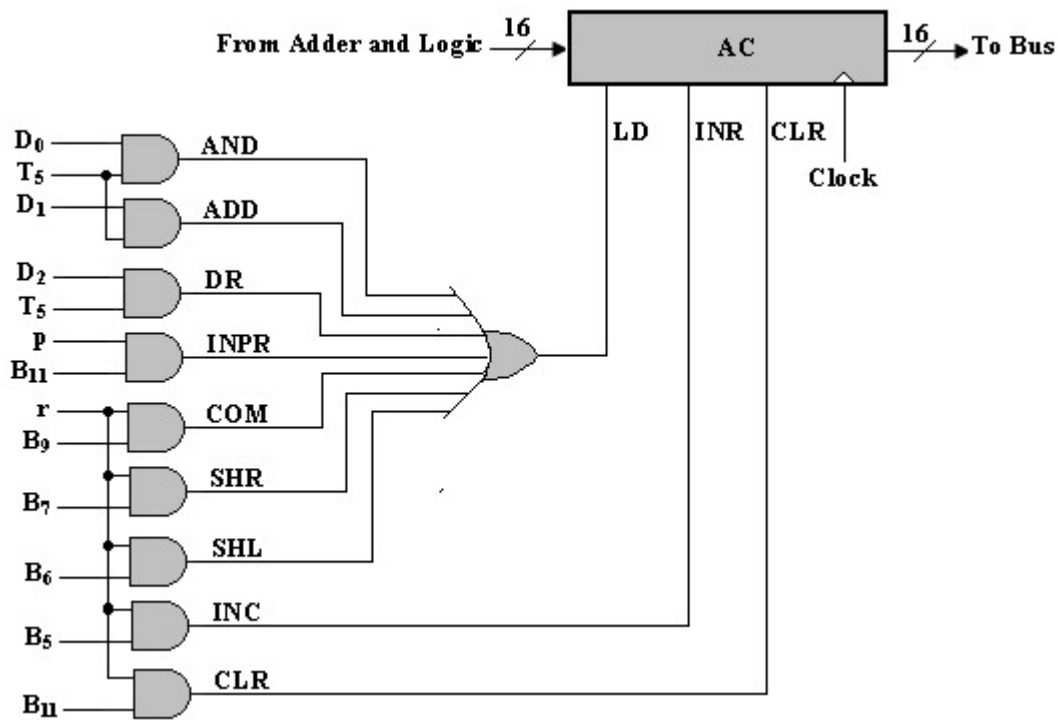
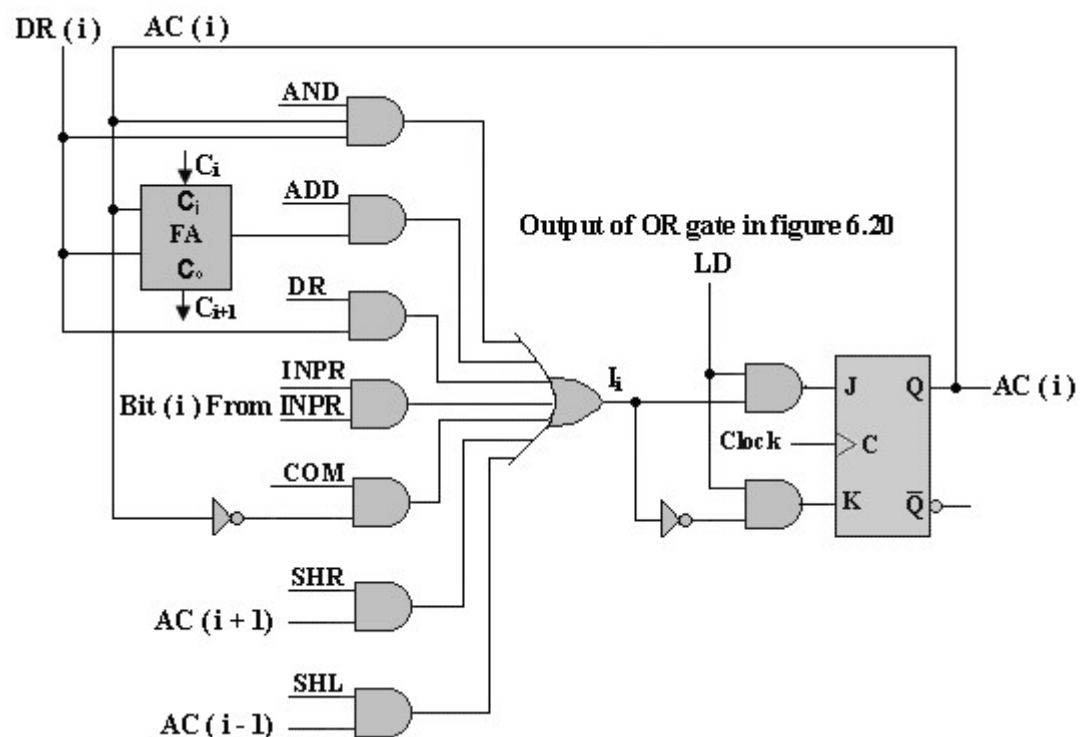

Figure 6.21
Figure 6.23
Figure 6.21 shows the gate structure that controls the **LD**, **INR**, and **CLR** inputs of the accumulator register **AC**. **Note that the outputs of the gates for each control function are marked with a symbolic name.**
Figure 6.23 shows one stage of AC register (here the OR gates are removed) since the other functions (i.e. Clear and Increment of the register AC are not included). When LD input is enabled, the 16 inputs I_i for $i = 0, 1, 2, \dots, 14, 15$ are transferred to AC (0-15).
1. Seven AND gates, every one has one of its inputs one of the functions comes from figure 6.21 as an enable. For example, the input named DR in figure 6.23 connected to the output marked DR in figure 6.21.
3. One Full-adder (FA).